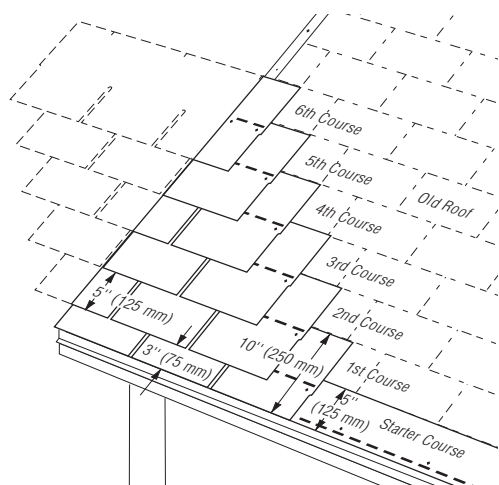

Figure 10-15: Six Off, Six Up, Nested.
2. Cut 6" off either side of the first starter shingle and install it over the first course of the old shingles, at the lower left corner (Figure 10-15).
1. The first course is made of 10" by 36" shingle strips made by cutting 2" off the bottom of the tabs of regular shingles (Figure 10-15).
1. Cut 6" off the left end of a full shingle. Butt the top edge of this 12" by 30" piece of shingle up against the bottom edge of the shingle in the old fourth course. Make the left edge align with the first-course left edge (Figure 10-15).
2. Apply this 24" piece of shingle over the second course, leaving the 5" tabs of the second course exposed. The top edge of the new shingle in this course should butt up against the bottom of the fifth course of old shingles (Figure 10-15).